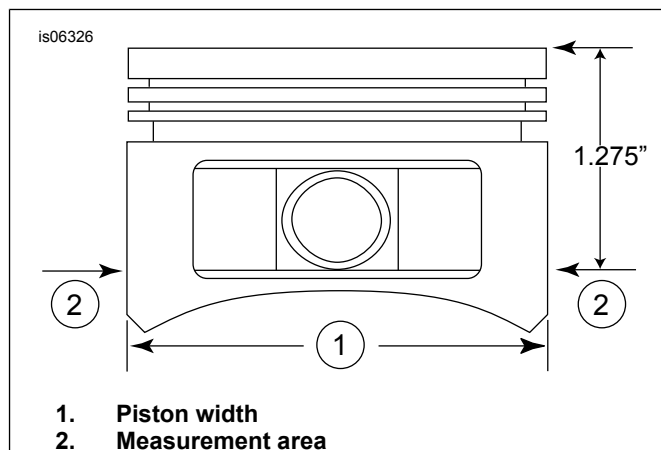

Figure 2. Piston Measurements
5. See Figure 2. Measure piston width (1), 90 degrees horizontally from both sides of the piston pin hole and 32.38 mm (1.275 in) down from the deck (top) surface of the piston (2). See Table 11 for piston-to-cylinder fit at this location.